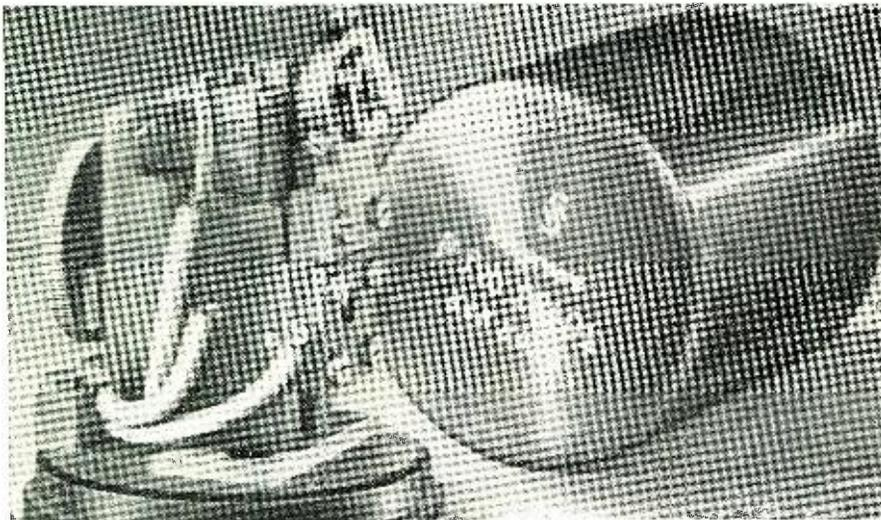

Fig. 196
**T**HE early development of the telephone repeater in Germany followed much the same path as in Great Britain and the United States. Early in 1910 the firm of Siemens & Halske attacked the problem along the line of producing a receiver-microphone type of amplifying device. They had secured the rights to the receiver-microphone repeater which had been developed by S. G. Brown in England. Using this as a basis, they succeeded in producing an improved mechanical repeater which could be adjusted to operate for some months without excessive maintenance.271 This mechanical repeater is shown in Fig. 196. Its frequency response was not as good as was desired, however, and the search for a better amplifier continued.